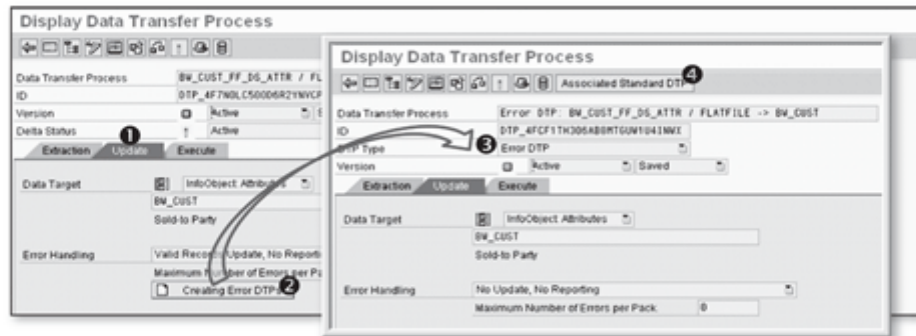

Figure 7.85 Creating an Error DTP
To fix the errors in this example, you must load the BK and AP values as master data for InfoObject OCUST_GRP1; assume that this has now been done. After the errors have been corrected, you can create the error DTP. In the DTP maintenance screen, select the Update tab shown in ❶ of Figure 7.85. Click on the Creating Error DTP button (❷), and the error DTP is created (❸). (You can switch to a standard DTP by clicking on the Associated Standard DTP button (❹).